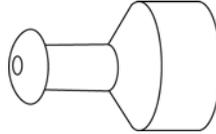

Figure 8: Positioning the eartip (226 Hz only probe)
1. Slip the appropriate size eartip onto the nose cone of the probe, making sure the rounded tip of the eartip sits flush with the tip of the nose cone (Figure 8).